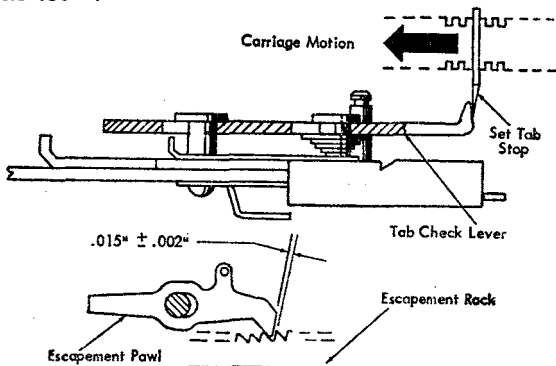

Figure 21. Tab Rack Adjustment, 4A
A. LEFT TO RIGHT. The tab rack should be adjusted left or right so that there is a clearance of $.015" \pm .002"$ between the working surfaces of the escapement pawl and an escapement rack tooth when the tab-check lever is in its extreme left position (Figure 21).
(1) Depress the tab cam with the power OFF and rotate the power roll by hand until the tab cam is near its high point.
(2) Allow the carriage to move to the left so that a set tab stop positions the tab-check lever to its extreme left position.
(3) Observe the clearance between the working surfaces of the escapement pawl and the escapement-rack tooth.